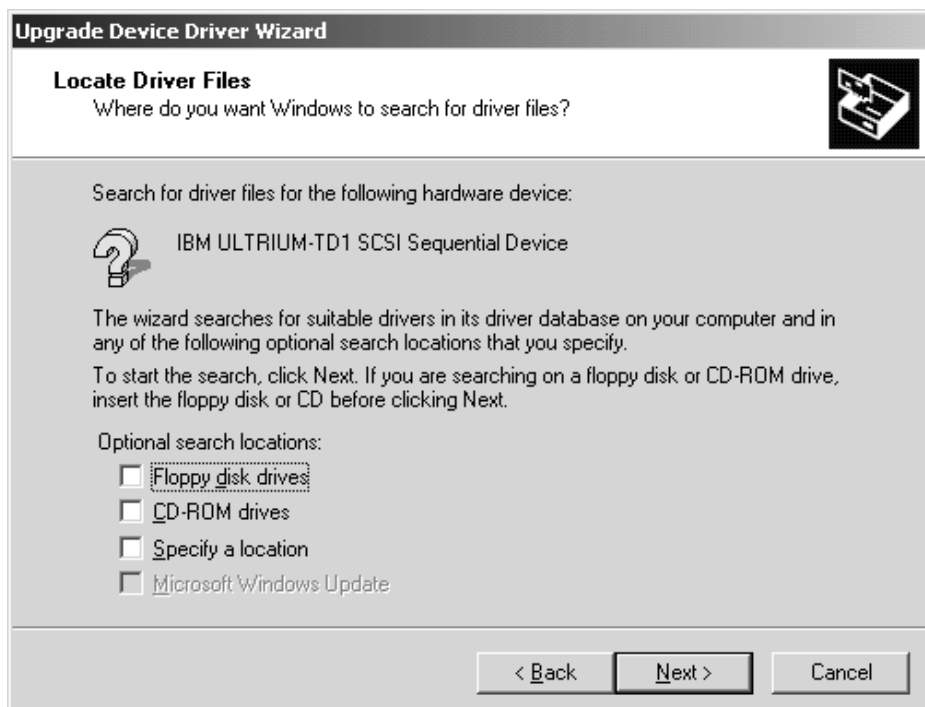

Figure 29. Locate Driver Files Menu
11. If you have completed steps 2 through 4 on page 162, the Ultrium device drivers files should already be copied to your hard drive. Clear **Floppy disk drives** and **CD-ROM drives**, then click **Next >**. See Figure 29.